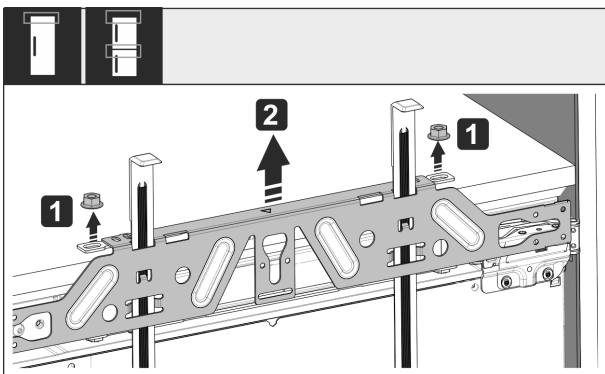

Fig. 55
- ▶ Loosen locknuts Fig. 55 (1).
- ▶ Remove crosspiece Fig. 55 (2).